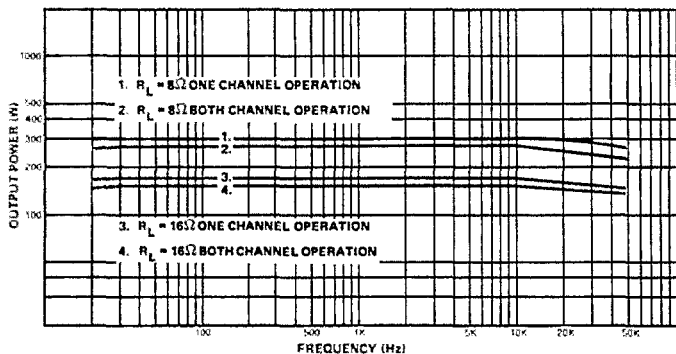

Fig. 3 - Power Bandwidth vs Load Impedance
**Power Output Per Channel:** (Refer to Figure 3. Ambient room temperature for tests: 25-degrees Centigrade.)
## POWER BANDWIDTH (Refer to Figures 3 & 14)